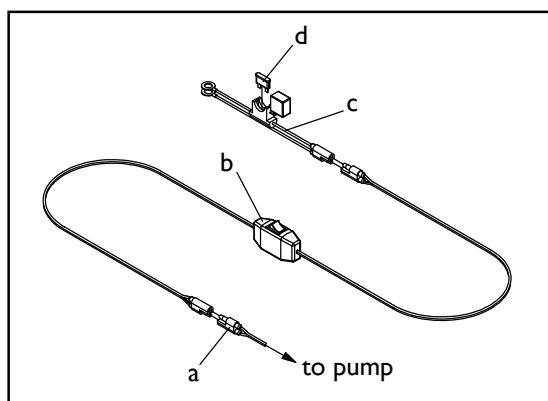

Figure 5: Wiring Harness
1. The pump wiring harness (a) has a 2-pronged plug. This wiring harness needs to be connected to the switch wiring harness (b) which includes the control switch. Make sure the wire colors match (Figure 5).
2. The switch wiring harness (b) needs to be connected to the battery wire harness (c) which includes the 15 amp fuse (d). Make sure the wire colors match (Figure 5).